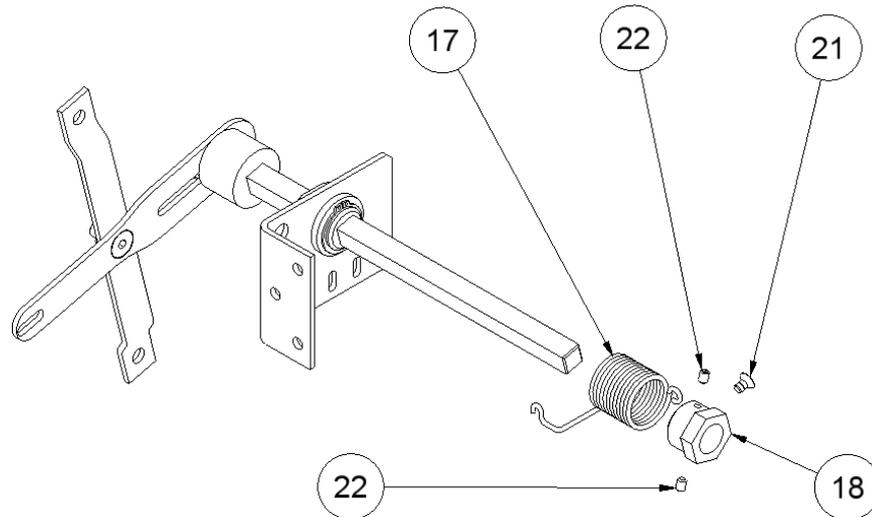

Figure .6
- 6. TENSOR AND SPRING PLACING:** The tensor (19) and the spring (17) must be assembled at the left side of the driving bar, and if it is possible it will be assembled at the side of the governor linkage (7), First of all the spring and the tensor must be inserted in the arm of that side. The spring is fixed to the tensor through a M6x10 DIN 7991 8.8 (20) and the other end of the spring must be fixed to one of the grooves placed on the mounting plate. Finally, the tensor is fixed to the driving bar arm through two M6x8 DIN913-45 H (18). The tensor must be prestressed in order to allow the spring to keep the handle in the lower position. – Fig. 6 –.